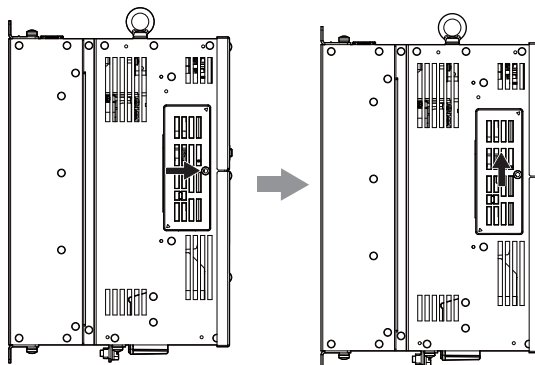

Figure 4.27 Sliding the Connector Cover
2. Slide the connector cover from the drive as shown in Figure 4.27.